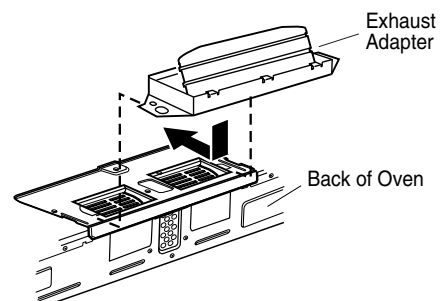

Figure 13
1. Attach the exhaust adaptor to the blower plate by sliding it into the guides. See Figure 13.